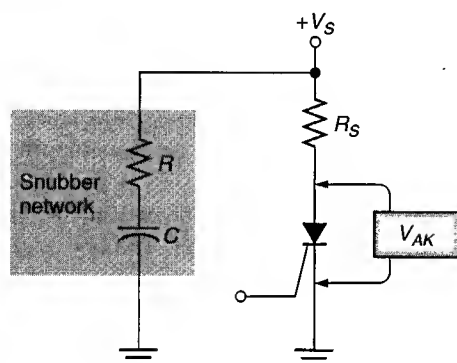

FIGURE 20.13 An RC snubber network.
Noise in V_{AK} is normally eliminated by the use of a **snubber network**. A snubber is an RC circuit connected between the anode and cathode terminals of the SCR. A snubber network is shown in Figure 20.13. The capacitor (C) effectively shorts any noise in V_{AK} to ground. The resistor (R) is included to limit the capacitor discharge current when the SCR turns on.
It should be noted that noise in V_{AK} (Figure 20.13) would originate in the dc voltage source (V_S). Assuming that V_S comes from a standard dc power supply, any noise generated in the supply is coupled to the SCR circuit. This noise is reduced by the snubber to a level that prevents it from causing false triggering.